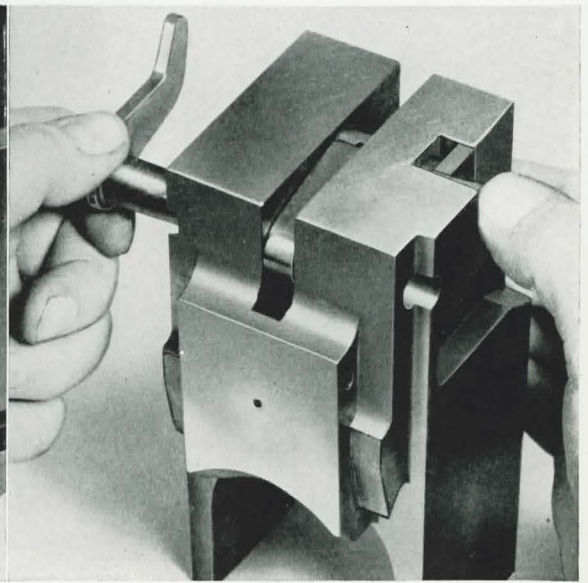

Figure 78
- (1) Push the sear in against spring tension, and remove the outer cocking lever, **Figure 78**.
- (2) Remove the inner cocking lever, the sear, and the sear spring.